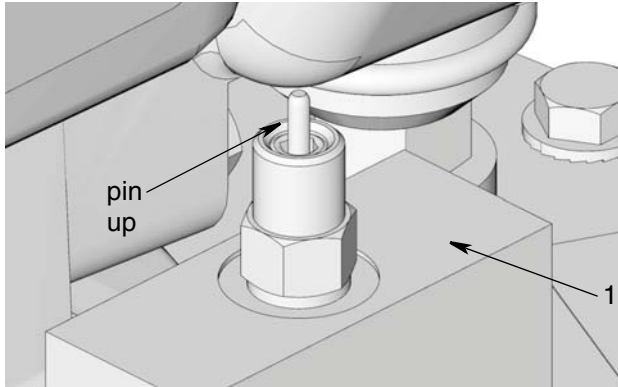

FIG. 18
- Turn on remote filling station pump (K) and fill reservoir (F) until the indicator pin on the Auto-Fill Valve (1) pushes up as shown in FIG. 18; pressure in the refill pump (K) builds and the pump stalls.